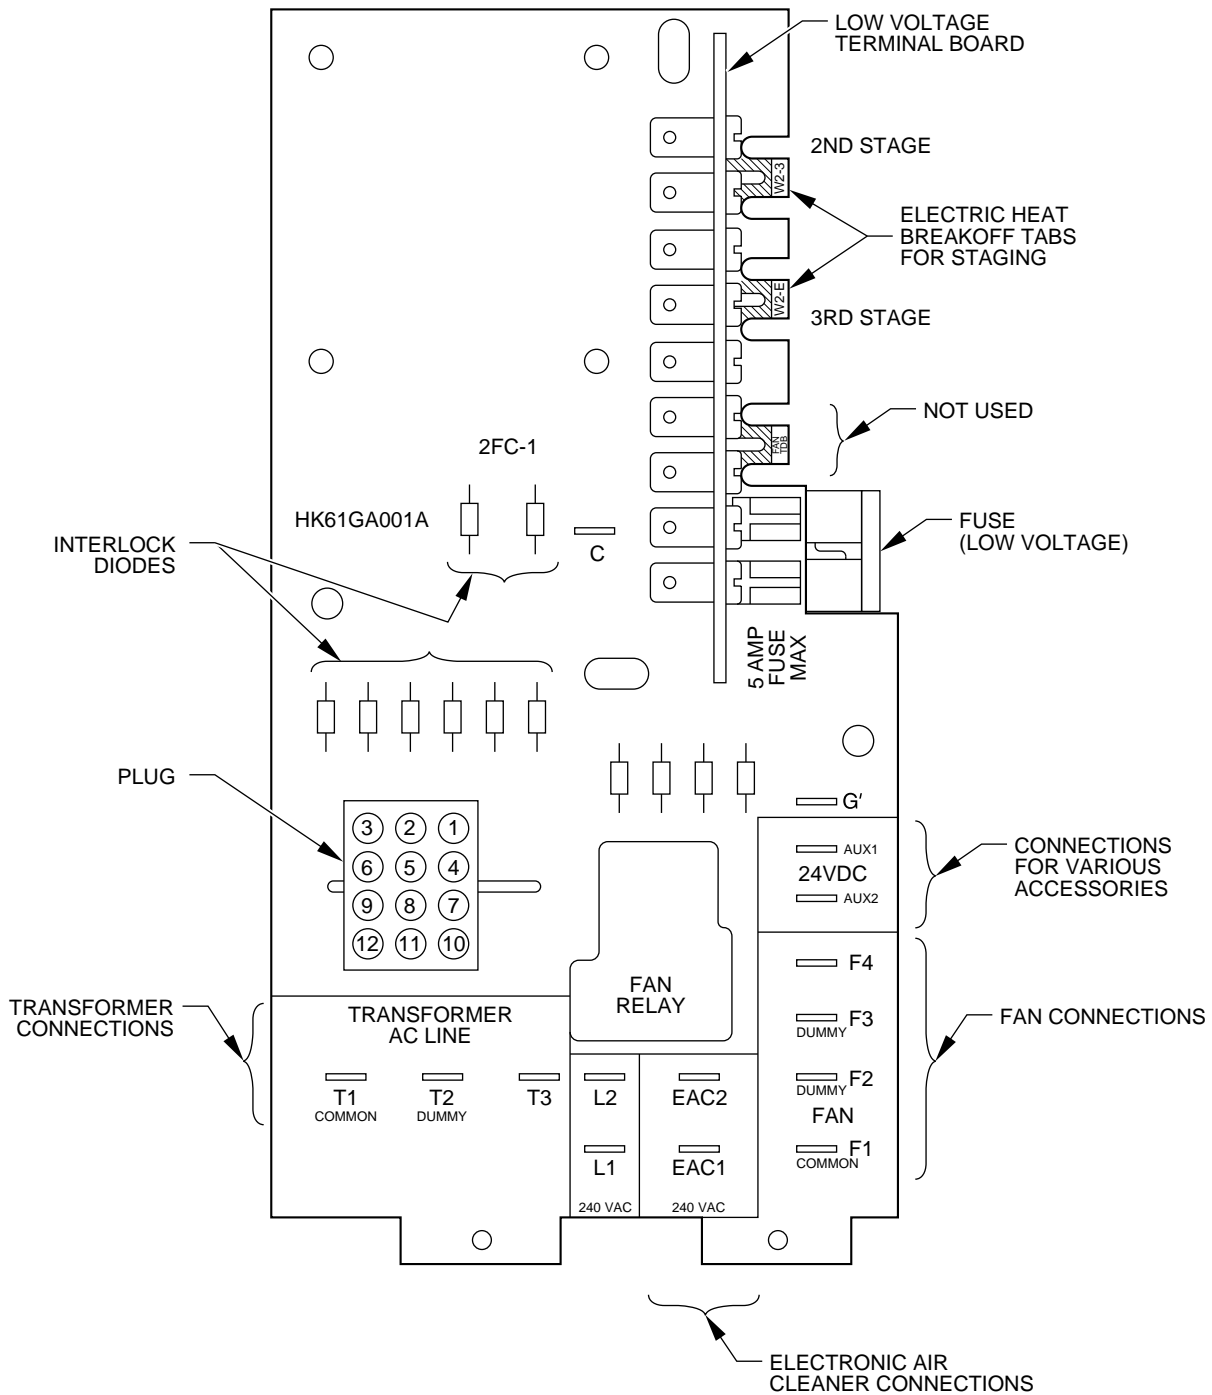
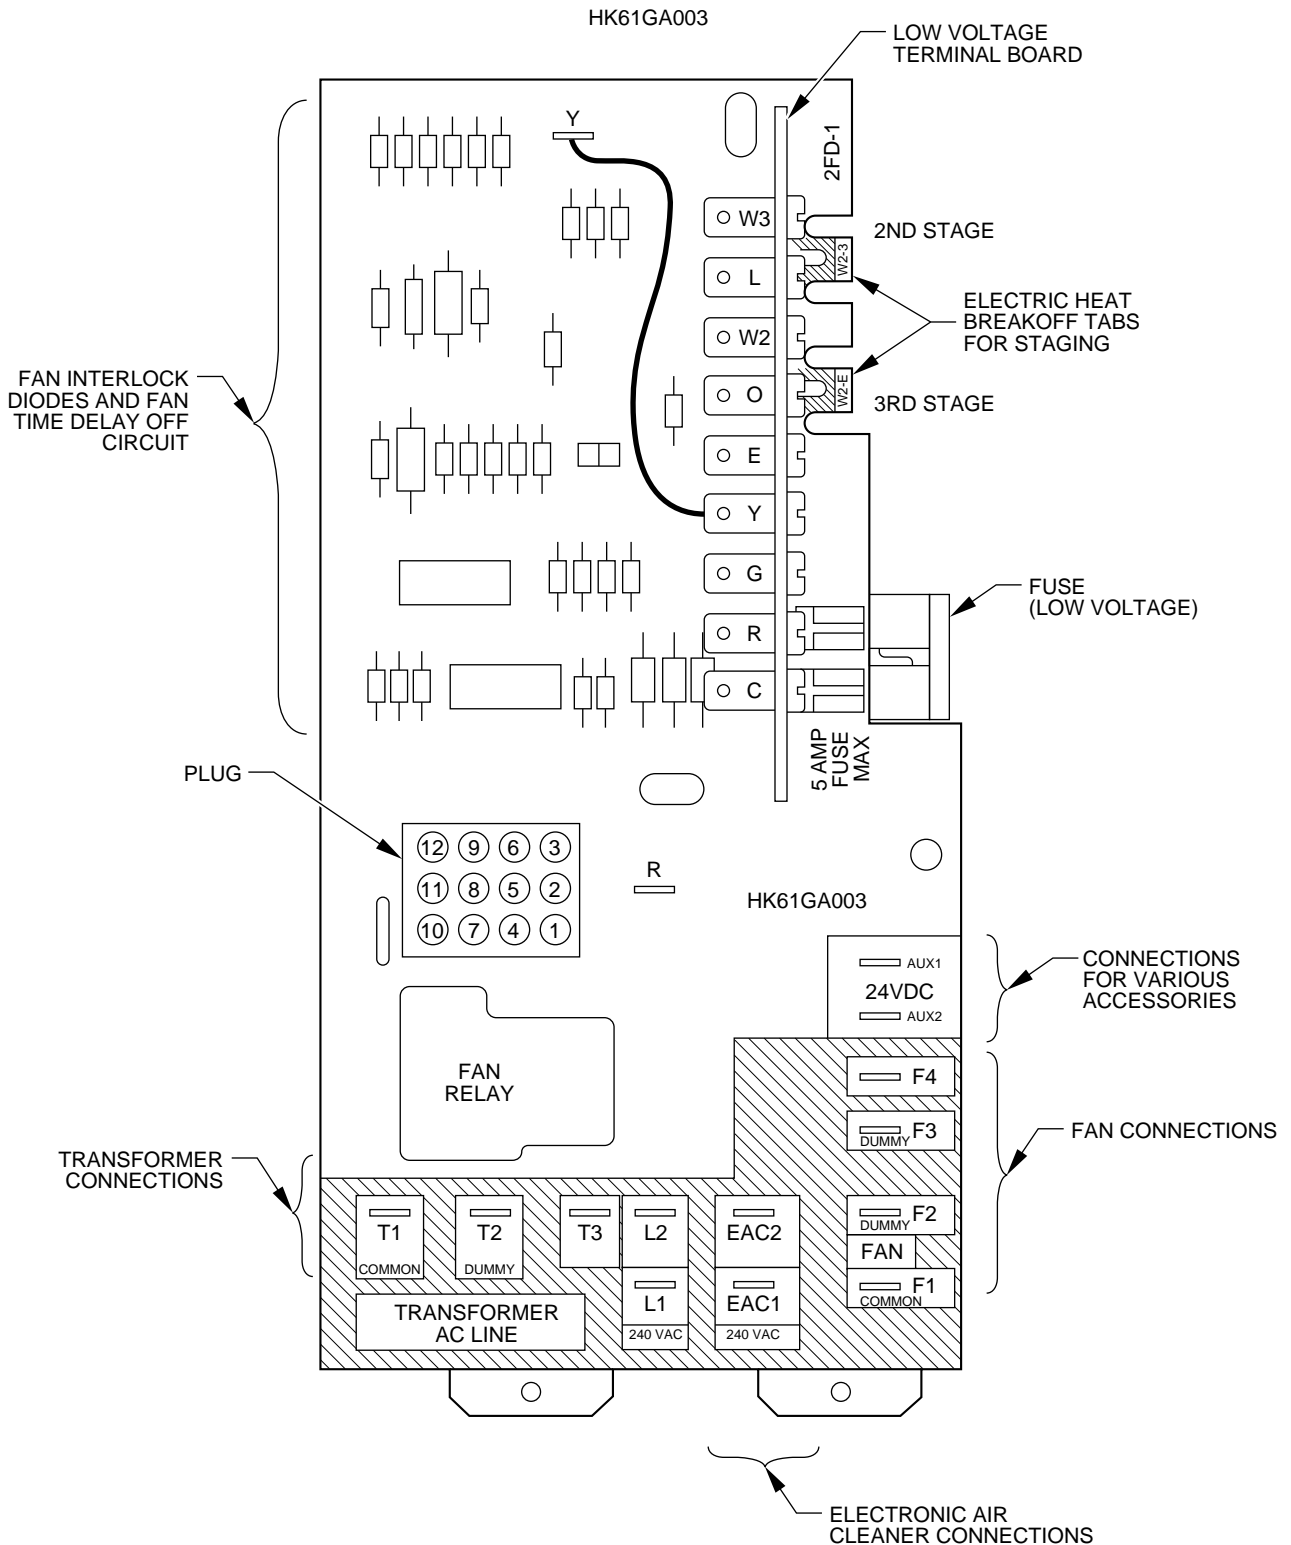

Fig. 6—HK61GA001 Printed-Circuit Board
Fig. 7—HK61GA003 Printed-Circuit Board
Layout of the actual printed-circuit boards are depicted in Fig. 6 and Fig. 7.
3. Check the low-voltage fuse shown in Fig. 6 and Fig. 7. If the fuse is blown, replace it. The transformer cannot supply power to the board with the fuse blown or loose. If the fuse blows when the unit has power applied to it, the system most likely has 1 of the following problems: